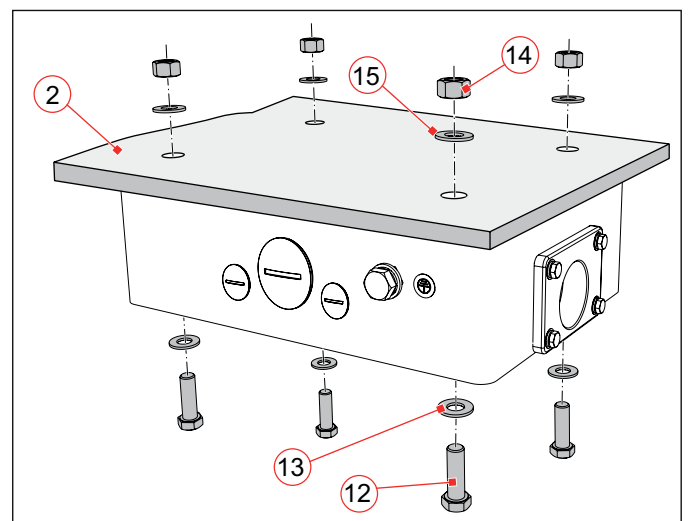

Fig. 32: Screw the shell of the junction box to the mounting frame (2)
- ▶ Insert 4 hexagon screws M10 (Fig. 32/12) incl. screw locking devices (13) from below through the fastening holes on the inside of the junction box.
- ▶ Then screw the junction box with nuts M10 (14) incl. screw locking devices (15) to the prepared mounting frame (2).